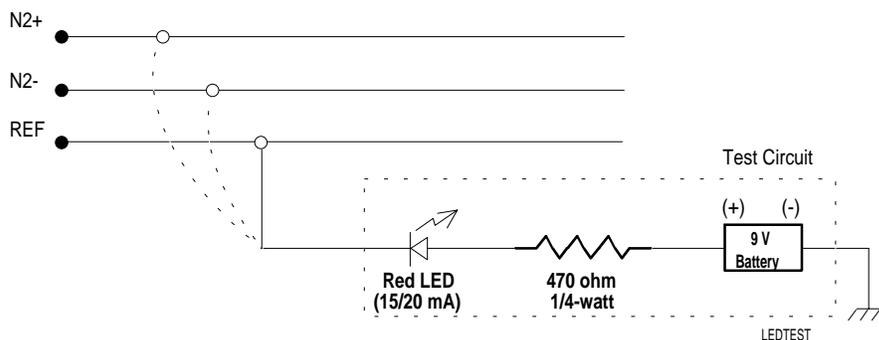

Figure 13: Ground Loop Test
For this test, you'll need a red LED test light, a 470 ohm resistor, and a 9 volt battery. Follow these steps, referring to Figure 13:
2. Assemble the test circuit as shown in Figure 13 or purchase one with a power supply of 9 volts or greater.